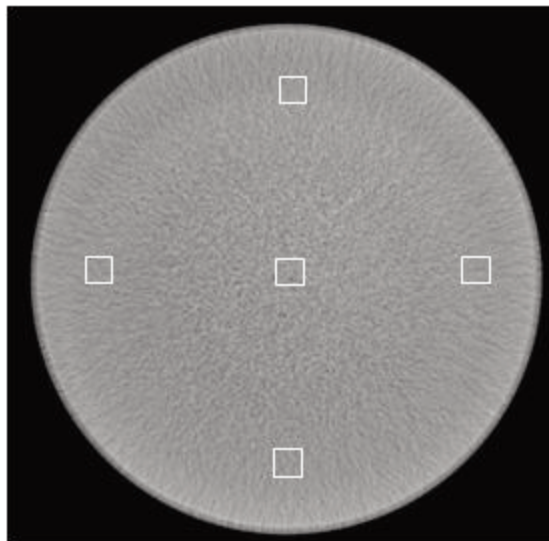

Figure 17.8-1: ROIs for field uniformity
4. Place an ROI of approximately 8 mm by 8 mm at the center of the image and the four edge positions as shown in Figure 17.8-1. For the edge ROIs, place the center of the ROI approximately 75% of the radius.